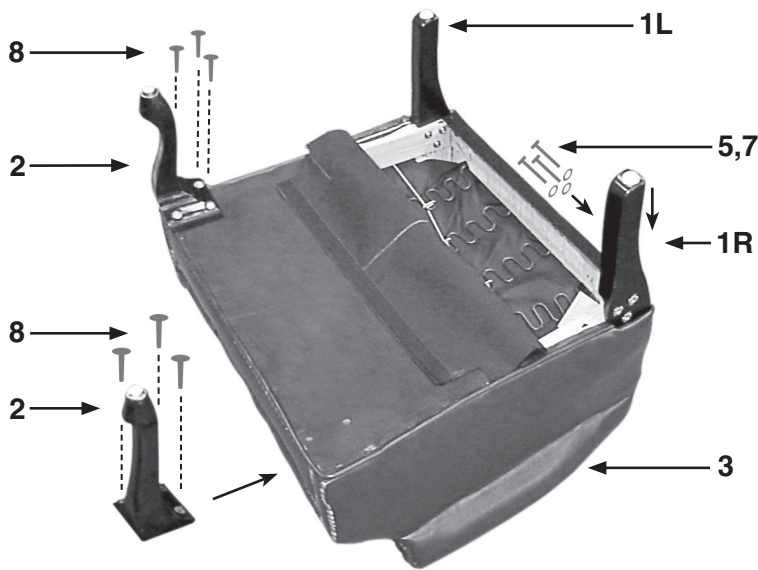

Fig. 1
**STEP 2** Attach Front Legs (2) to front underside of Seat Cushion (3), using six Short Screws (8). (See Fig.1)
**STEP 3** Peel back black fabric from bottom rear of Seat Cushion (3). Insert Rear Legs (1) between vinyl and frame, and attach using six Medium Screws (5), and six Washers (large hole) (7). (See Fig. 1 & 3) When finished reattach black fabric.